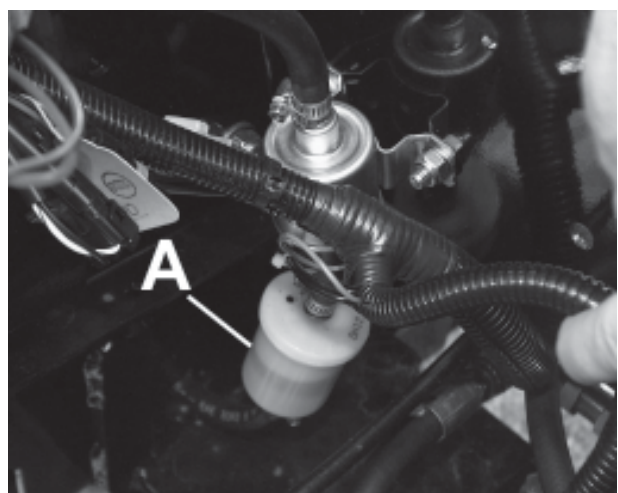

Fig.12
Replace In-line fuel (A) (Fig.12)**Cleaning the air filter**